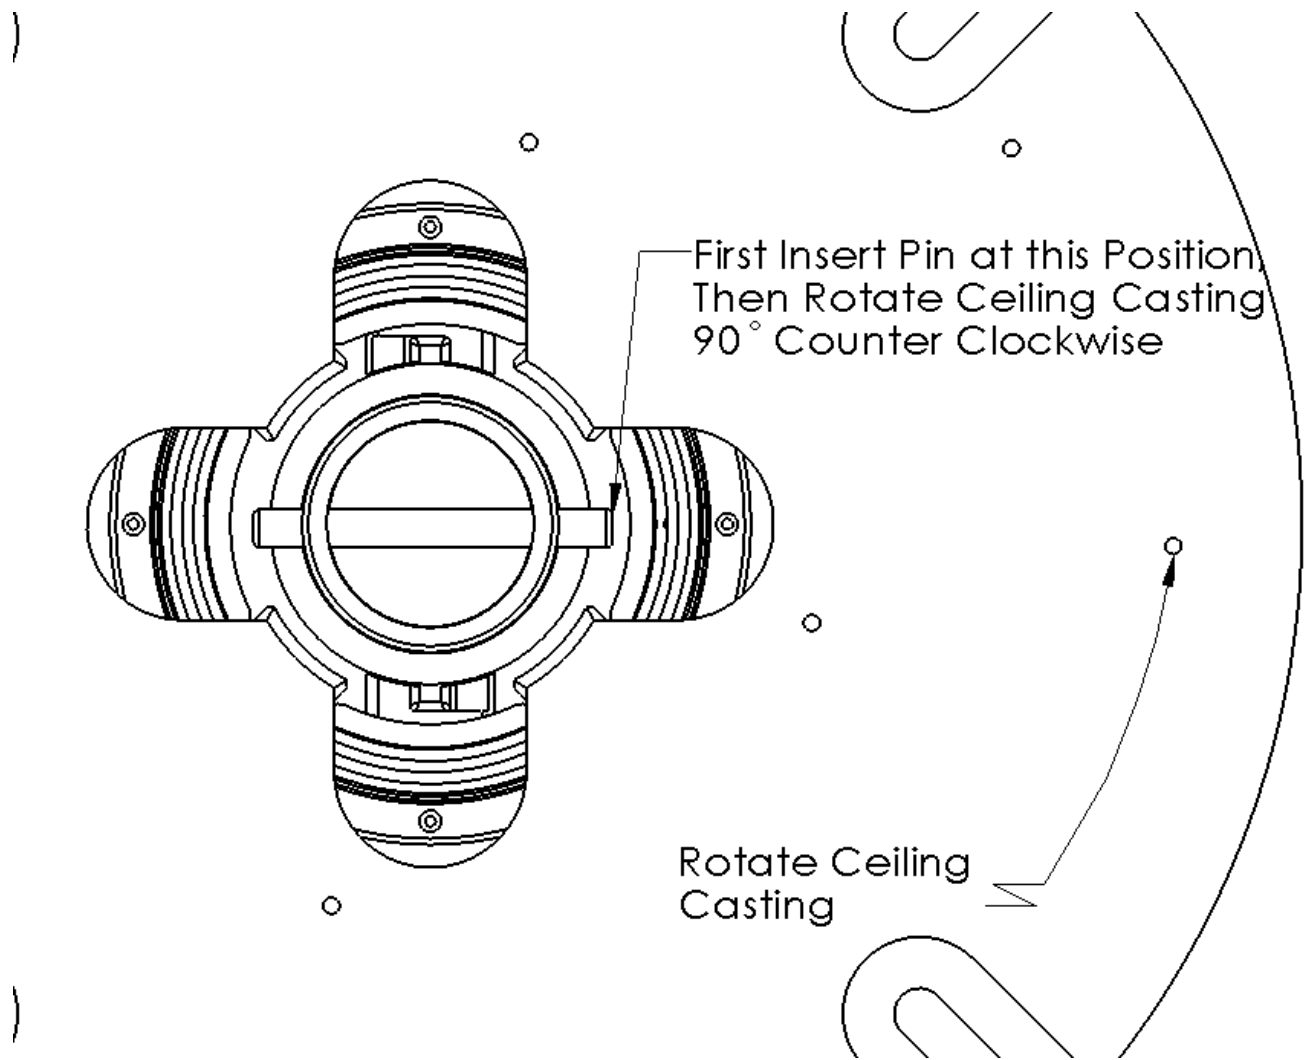

Figure 10. Ceiling & Shaft dowel pin insertion
- Rotate the ceiling casting counter clockwise such that the dowel pin slides up the locking notch ramp and into the locking slot. See figures 10 & 11.